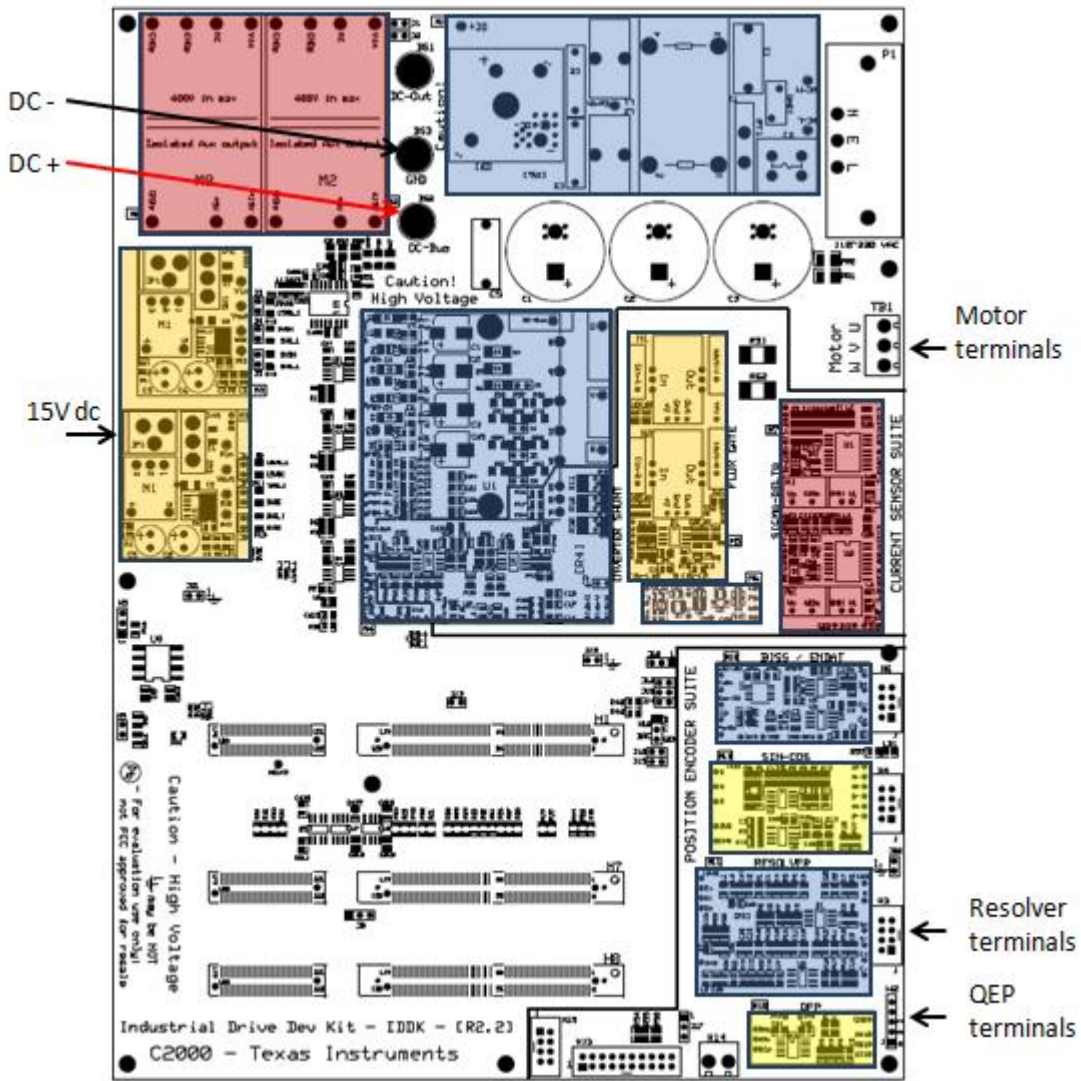

Figure 3 Connection diagram with external variable DC power supply providing DC bus voltage
- 1.To use an external variable DC power supply, set the power supply output to zero and connect [Main]-BS2 and [Main]-BS3 to the + and – terminal of the DC power supply respectively as shown in Figure 3 below.